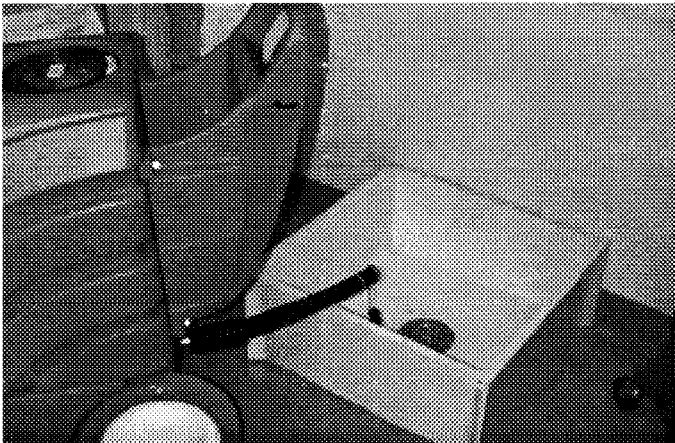

Fig. 7
2. Remove drain hose from holder, position hose over floor drain and twist off knob to drain. (Figure 7)